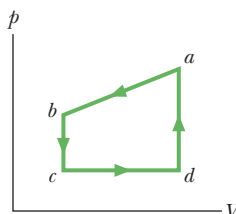

Fig. 18-41 Problem 49.
- 49 **SSM** Figure 18-41 represents a closed cycle for a gas (the figure is not drawn to scale). The change in the internal energy of the gas as it moves from a to c along the path abc is -200 J. As it moves from c to d , 180 J must be transferred to it as heat. An additional transfer of 80 J to it as heat is needed as it moves from d to a . How much work is done on the gas as it moves from c to d ?